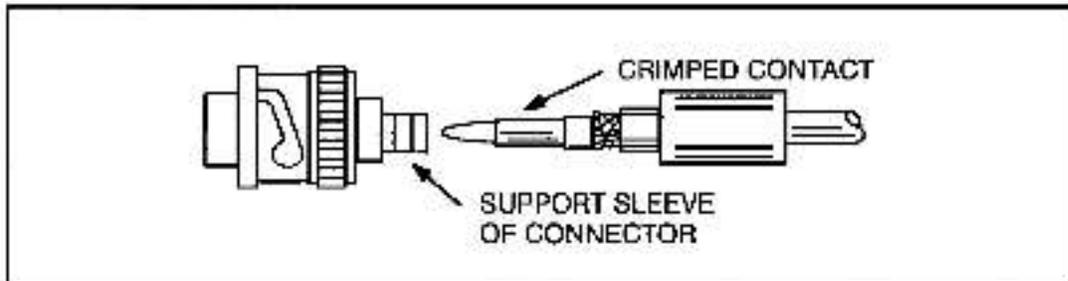

Figure 3.11 - Connector Installation Step 6 for RG-59/U Cable
- Step 6. Verify that the shield braid wire does not touch the center contact. Refer to figure 3.11.